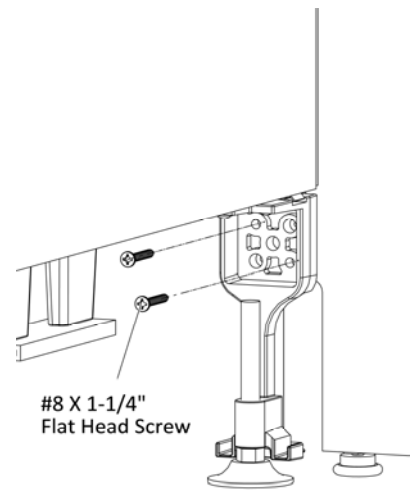

Figure 3
- Drive two #8 X 1-1/4" Flat Head Screws through the holes in standard panel leg into the pre-drilled holes of gallery panel, (Figure 3).